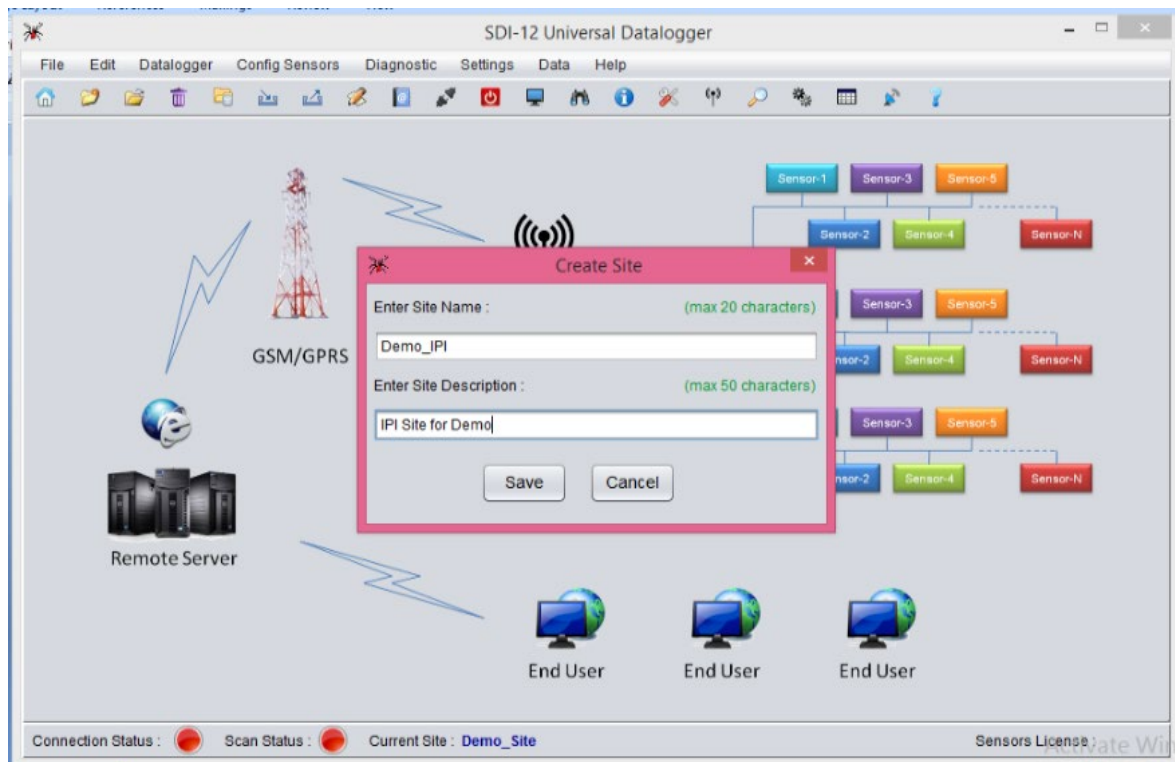

Figure 7-2 Create site window of EDSL-30UNI Configuration Manager Software
- 2 After clicking “Create Site”, a “Create Site” window will appear as shown in figure 7-2 below. Enter “Site Name” and “Site Description”. Then click “Save” button.